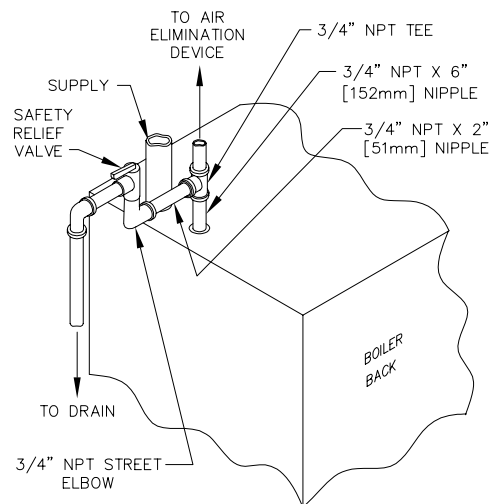

Figure 3.4: Safety Relief Valve Hook-Up with Air Elimination
- For air elimination at the safety relief valve tapping, install valve and piping as shown in Figure 3.4.